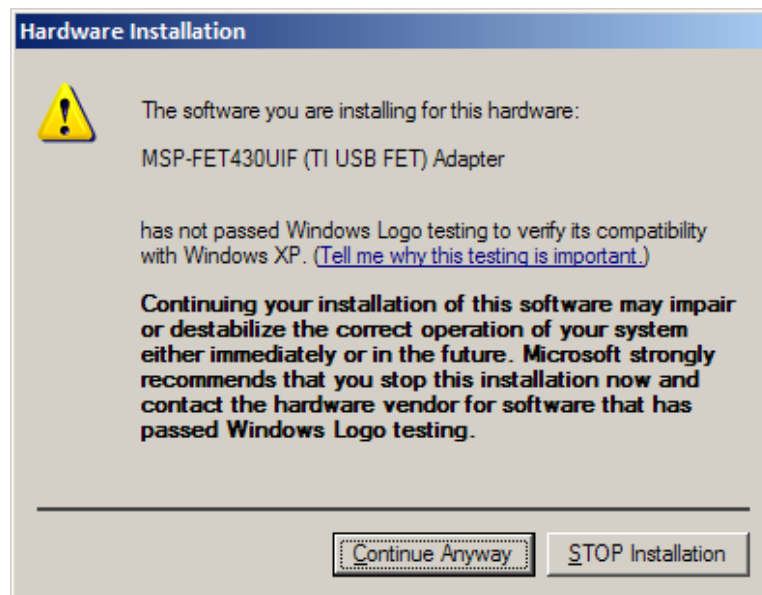

Figure 9. Windows XP Warning
- The Wizard should find the appropriate driver and on Windows XP system, it will prompt you with a warning that Microsoft did not certify the driver. The drivers have been tested exhaustively and you may ignore this warning and click “**Continue Anyway**” (Figure 9).